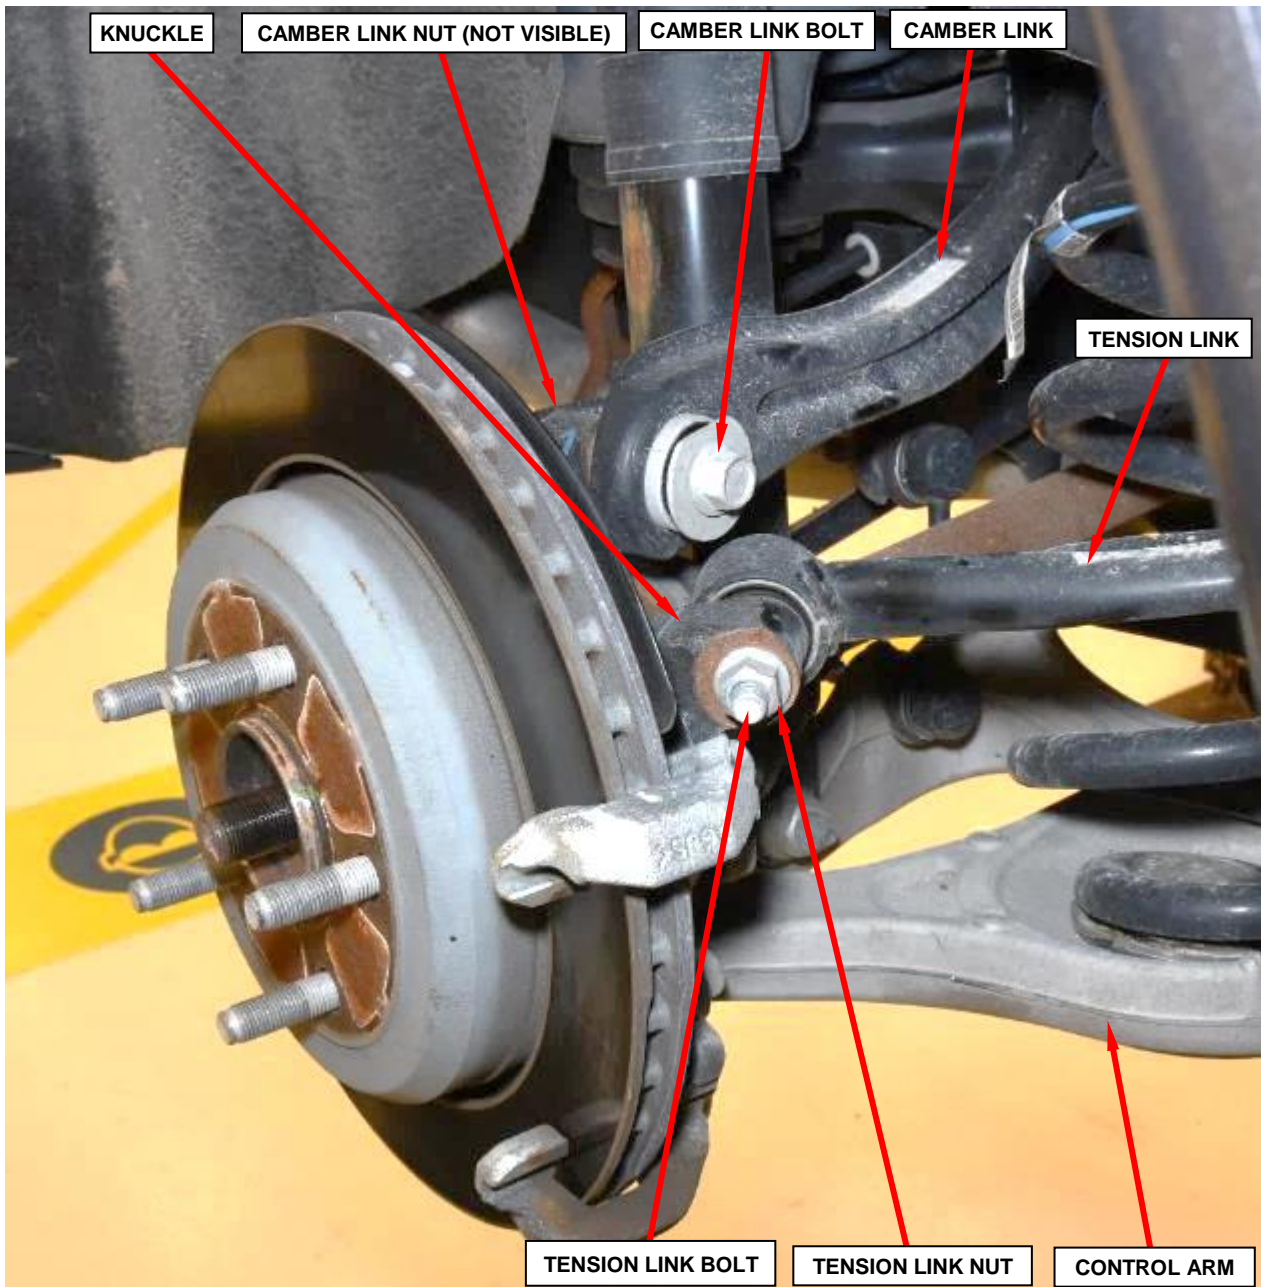

Figure 6 – Rear Suspension Components
11. Remove the tension link nut and bolt (Figure 6).
12. Remove the camber link nut and bolt (Figure 6).
24. Install the camber link to the knuckle using the saved bolt and a **new** nut. **Do not** tighten the camber link fasteners at this time (Figure 6).
25. Install the tension link to the knuckle using the saved bolt and a **new** nut. **Do not** tighten the tension link fasteners at this time (Figure 6).
- Tighten the camber link fasteners to 110 N·m (81 Ft. Lbs.) (Figure 6).
- Tighten the tension link fasteners to 108 N·m (79 Ft. Lbs.) (Figure 6).